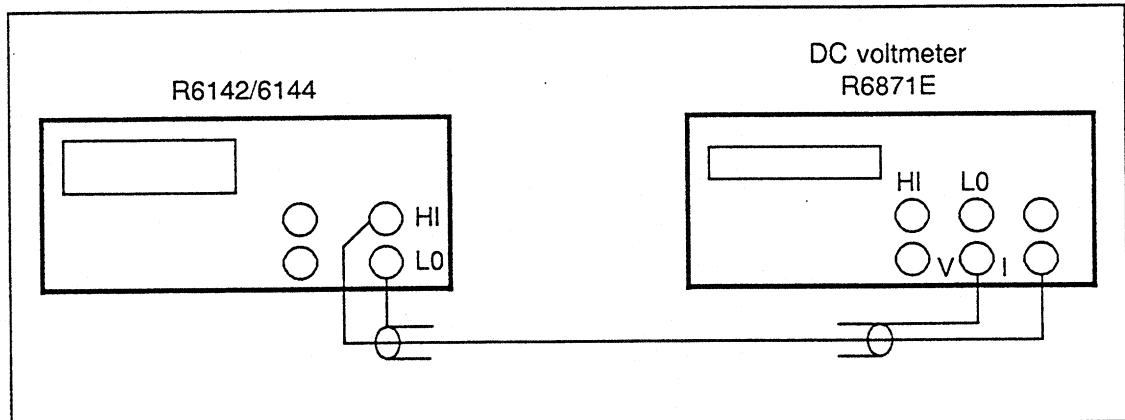

Figure 4-8 Cable Connection for Current Limiter Test
① Connect the R6142/6144 to the R6871E as shown in Figure 4-8.